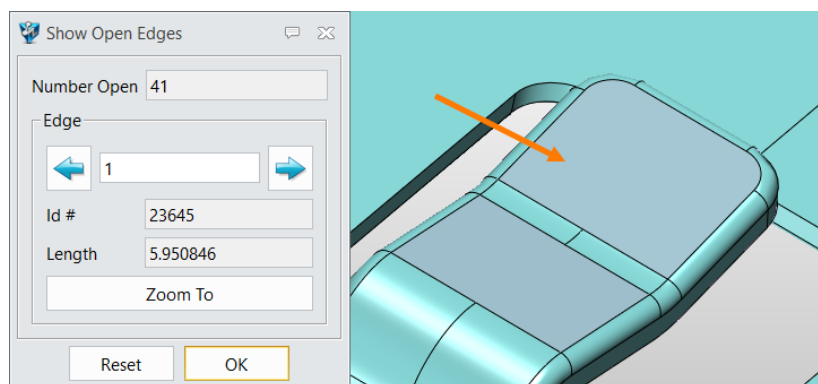

Figure 10 Fill Another Loop
STEP 10 Use the **Fill Gap** to fix another loop, the result will show as figure10.